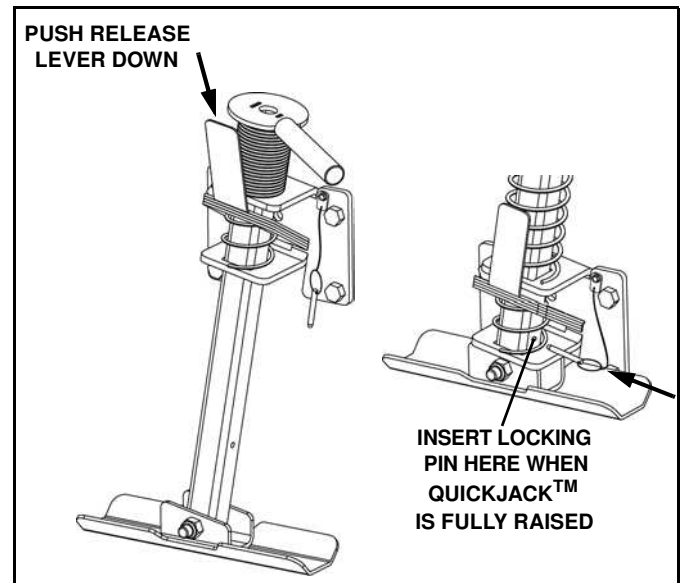

Figure 1-24
27. Raise QuickJack™ foot by pushing down on its release lever. Insert the locking pin in the QuickJack™ tube to prevent the jack from dropping during transport or plowing operations. (See Figure 1-24).